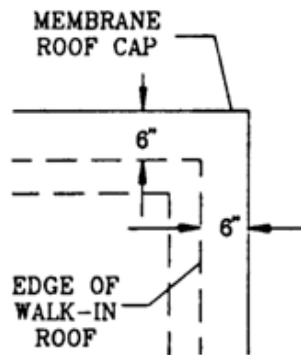

FIGURE 18 - VINYL WEATHERCAP LAYOUT
3. With the smooth finish side of the vinyl roof cap up (tabs on underneath side) mark 6" in from each side and end of the vinyl weathercap (Refer to Figure 18). This will aid in alignment and allow the proper 6" overhang around the perimeter of the walk-in.